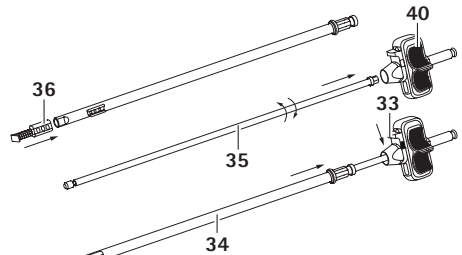

Fig. 16 Assembling ME020R
- ▶ Release the button **33**, see Fig. 16.